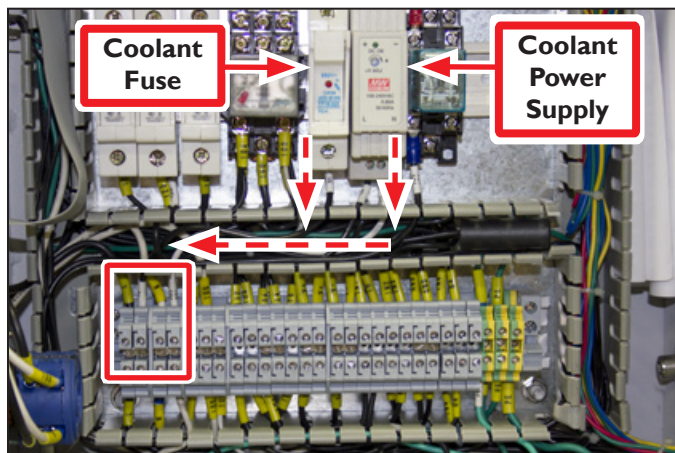
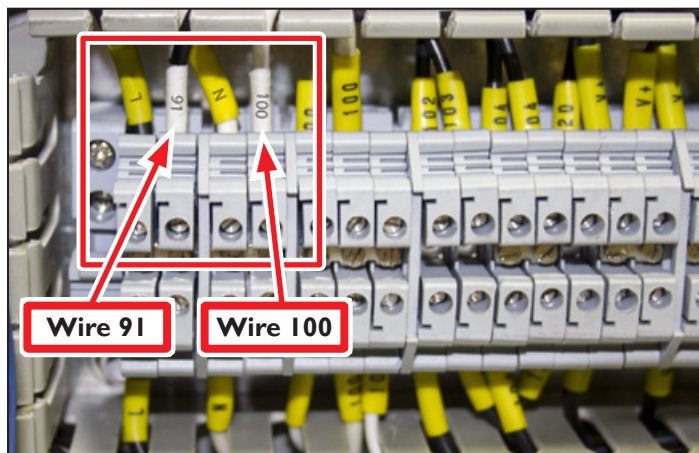

Figure 8
Figure 9
4. Identify wire 91 from Coolant Fuse; route through wire trough and connect to open slot adjacent to pre-installed wire L on upper terminal block (see **Figure 8** and **Figure 9**).
5. Identify wire 100 from Coolant Power Supply; route through wire trough and connect to open slot adjacent to pre-installed wire N on upper terminal block (see **Figure 8** and **Figure 9**).